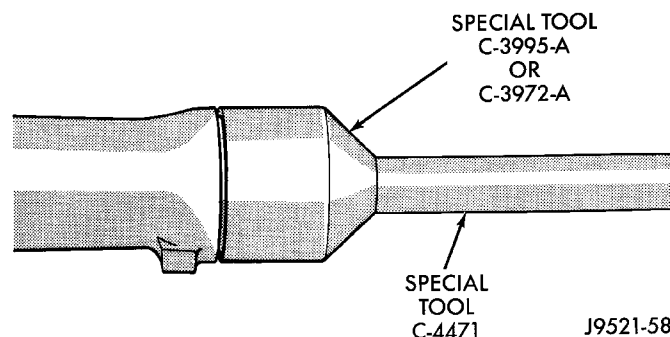

Fig. 38 Overdrive Housing Seal Installation
(1) Align bushing oil hole with oil slot in overdrive housing.
(2) Tap bushing into place with Installer 6951 and Handle C-4171.
(3) Install new oil seal in housing using Seal Installer C-3995-A (Fig. 38).